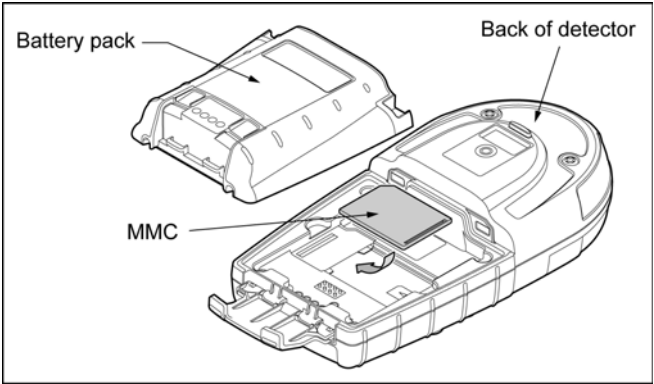

Figure 12. Inserting/Removing the MMC/SD Card
To insert the MMC/SD card into the detector, refer to the following steps 1-5 and Figure 12.
3. Remove the MMC/SD card from the detector. Refer to Figure 12, and 1.
1. Deactivate the detector and remove the MMC/SD card (refer to Figure 12.).